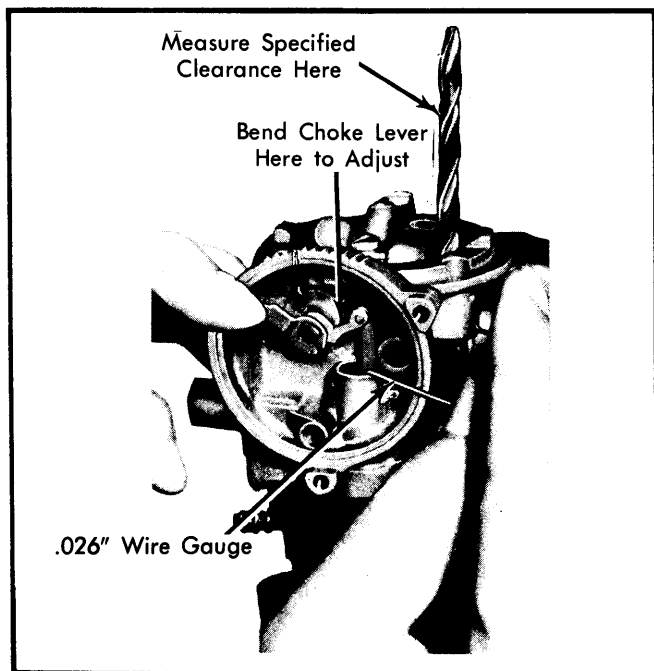

Fig. 6 Choke Valve Pull-Down Clearance Adjustment
2) Bend a .026" diameter wire gauge at a 90° angle approximately 1/8" from one end. Insert the bent end of the wire gauge between choke piston slot and right hand slot in the choke housing. See Fig. 6.